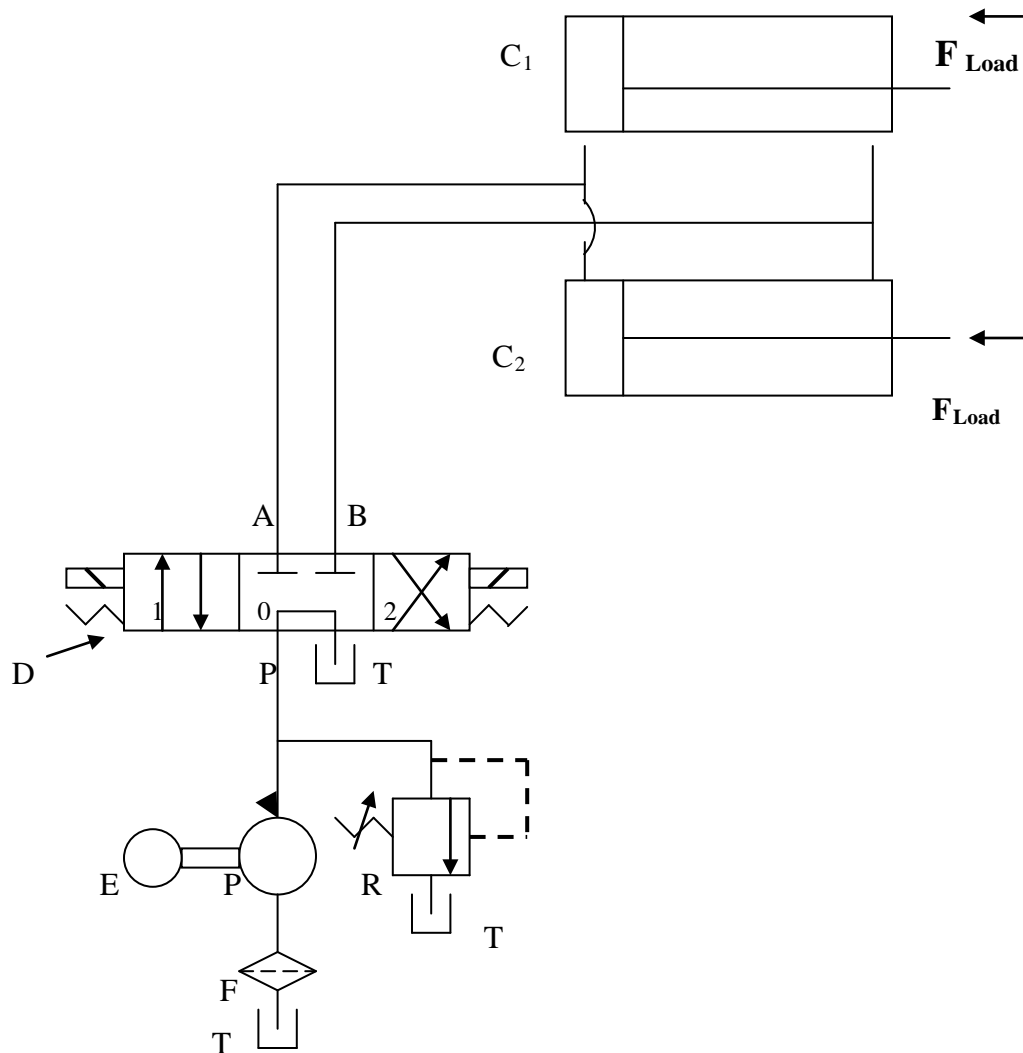

Fig 5.14. Cylinder hooked in parallel for synchronizing
a. **Cylinder connected in series** : Figure 5.14 is a very interesting circuit, which seems to show how two identical cylinders can be synchronized by piping them in parallel. However, even if the two cylinders are identical, it would be necessary for the loads on the cylinders to be identical in order for them to extend in exact synchronization. If the loads are not exactly identical (as is always the case), the cylinder with the smaller load would extend first because it would move at a lower pressure level. After this cylinder has fully completed its stroke, the system pressure will increase to the higher level required to extend the cylinder with the greater load. It should be pointed out that no two cylinders are really identical. For example, differences in packing friction will vary from cylinder to cylinder. This alone would prevent cylinder synchronization for the circuit of Fig. 5.14.